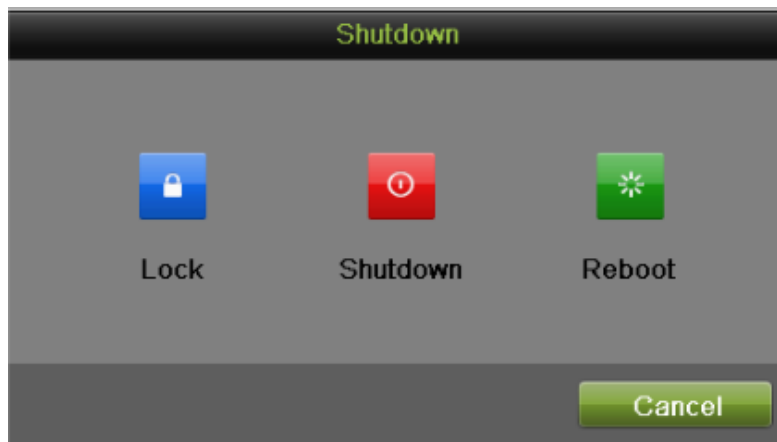

Figure 12 Shutdown Menu
1. Shutdown your DVR by going to Menu > Maintenance, click  in the lower left corner to pop-up the Shutdown menu, as shown in Figure 12.